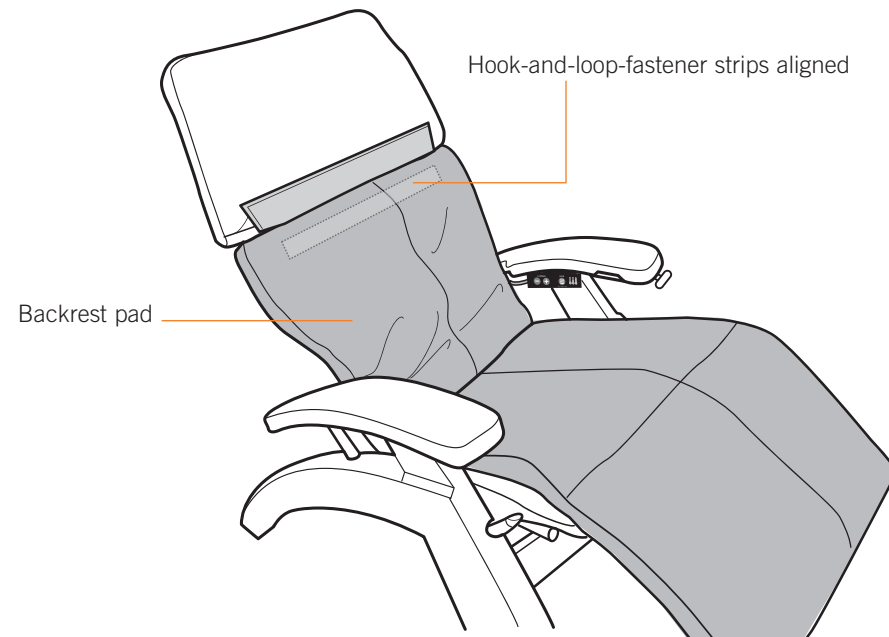

Fig.28
5. Pull up on the backrest pad until the hook-and-loop fastener strip on the back of the pad aligns with the hook-and-loop fastener strip on the chair canvas, then press the two strips firmly together (Fig.28).